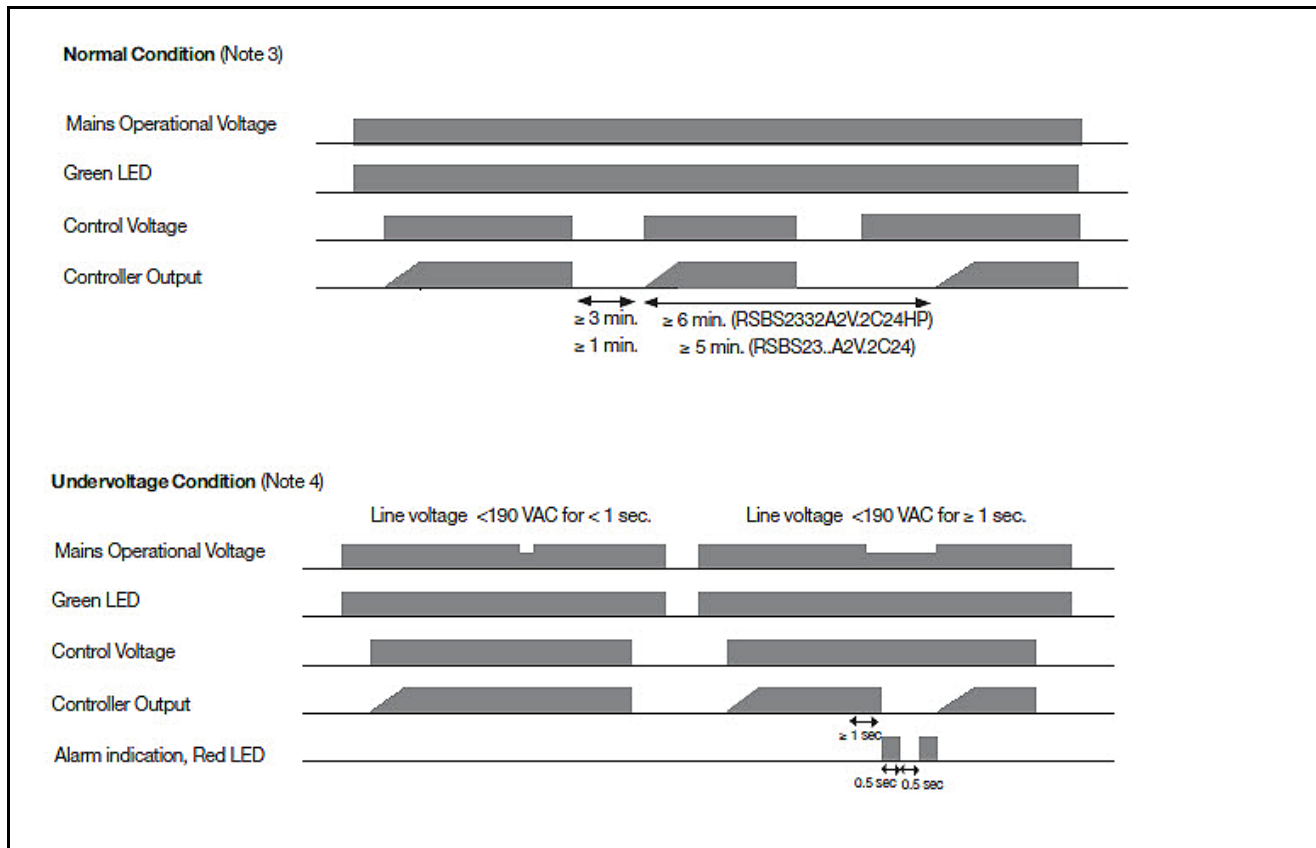

Fig. 12 SmartStart Assist Modes of Operations (Normal and Undervoltage Condition)
8. During the recovery from under-voltage, overcurrent, and incomplete ramp alarms, the red LED will flash twice the normal flashing frequency using the same number of flashes. Fig. 12 shows the flashing in case of a recovery from an undervoltage alarm.